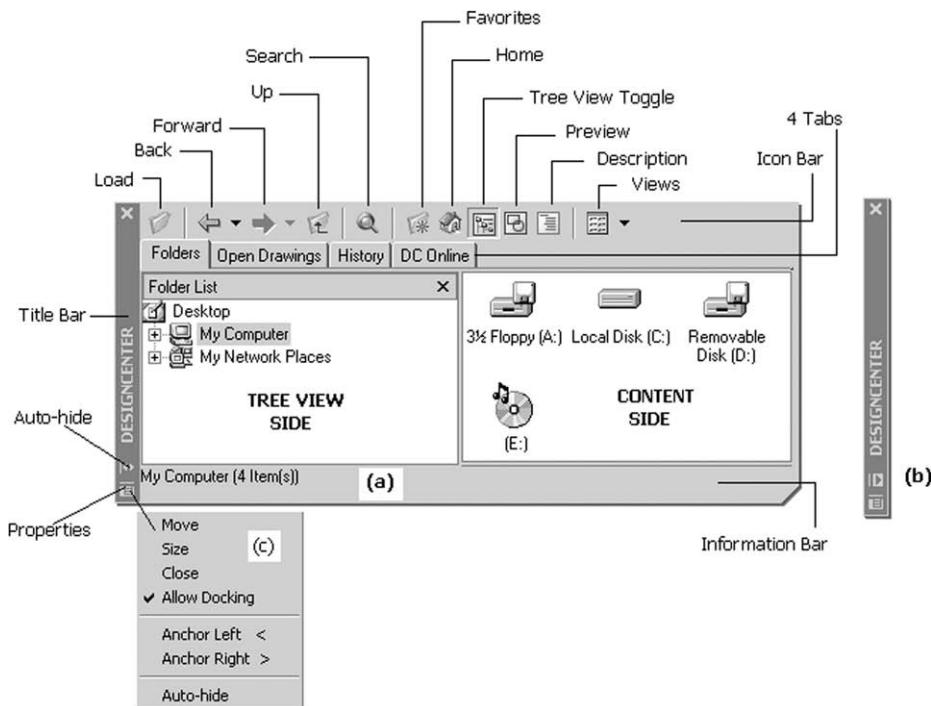

Figure 31.1 The Design Center palette window: (a) fully displayed; (b) with Auto-hide selected and (c) the Properties menu.
- a) The Design Center window is fully displayed in Figure 31.1(a)
- b) If the Auto-hide is selected, the window ‘collapses’ and is displayed as Figure 31.1(b)
- c) The Properties icon will display another menu as Figure 31.1(c).
- These are displayed and listed in Figure 31.1 and are: